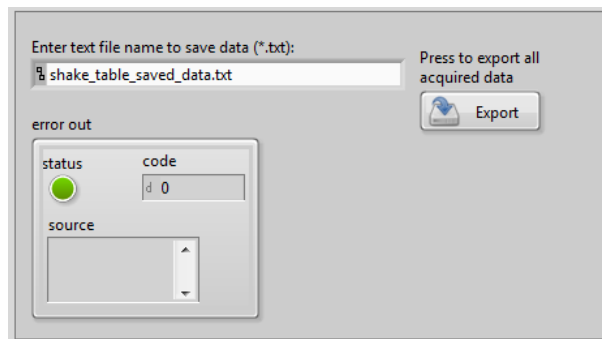

Figure 2.7: Exporting data to Excel
- Click on the *Export* button shown in Figure 2.7 **before running the software**.